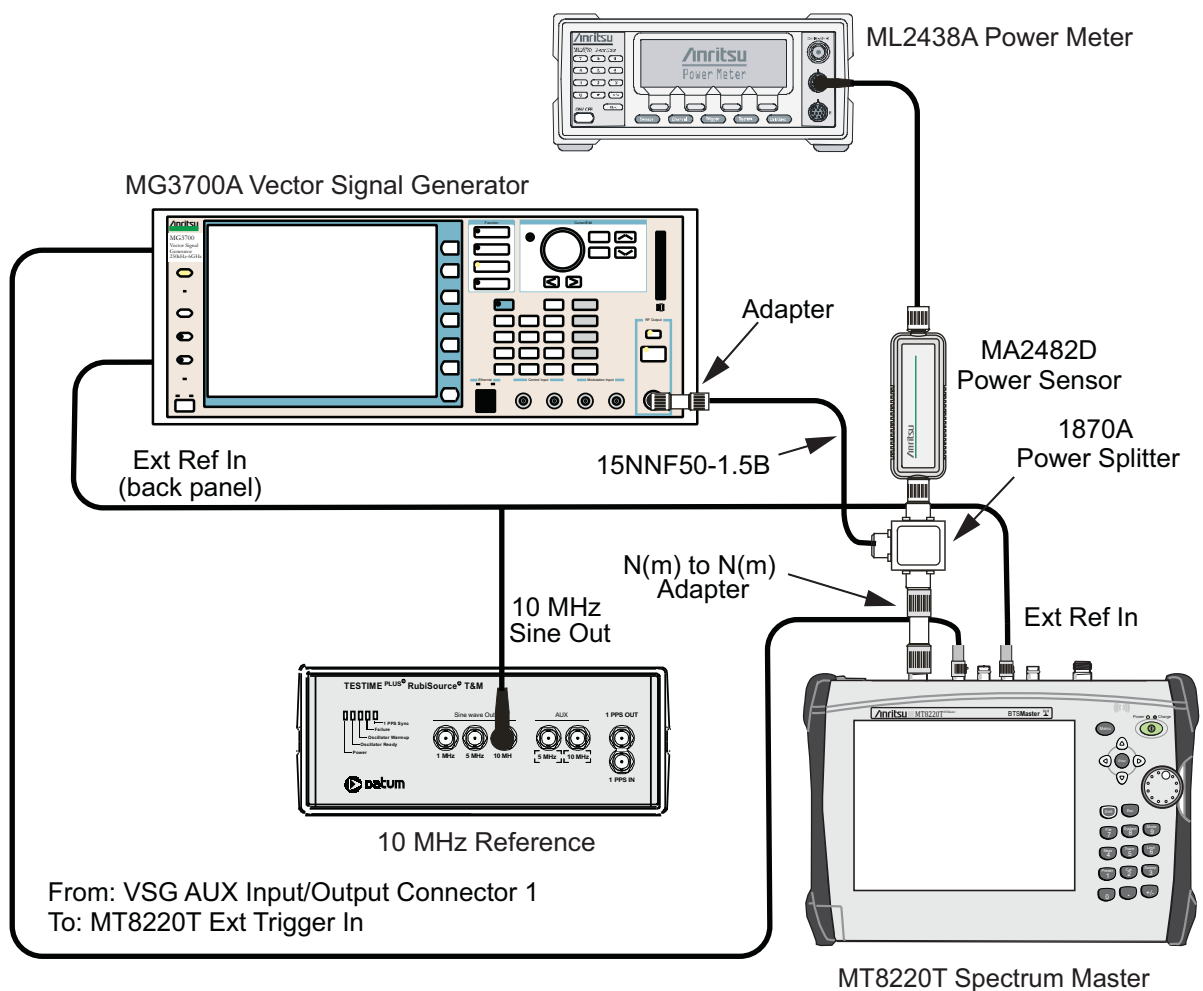

Figure 6-9. EVDO Signal Analyzer, Test Setup
2. Connect the equipment as shown in Figure 6-9.